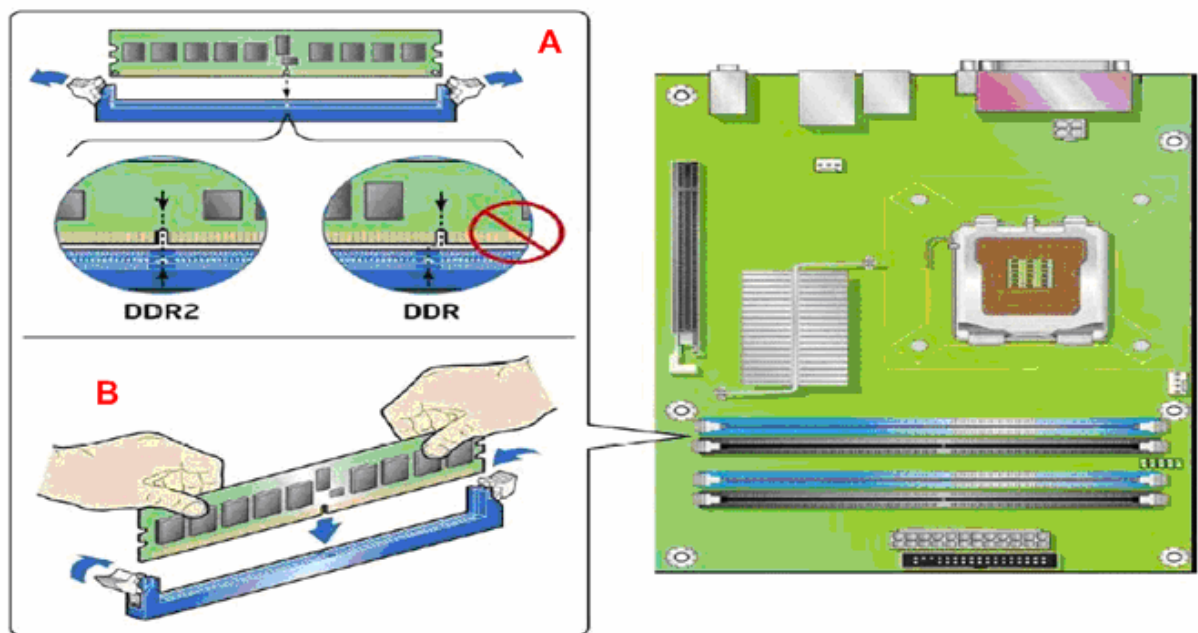

**Figure 13 - Location of the On-board Power Indicators**
**CAUTION:** When connected to AC power, the memory slots on the board will be powered and in use. A red LED (Figure 13) - B, located near the memory slots, will be lit if the memory slots are powered.
The motherboard has two on-board power indicators: a + 5 V standby power indicators (green LED) and a memory power indicator (red LED) shown in Figure 15. The + 5 V standby power indicator (Figure 13) – A. is lit when there is standby power still present on the board even when the computer appears to be off. The memory power indicator (Figure 15) – B. is lit when there is power to the memory slots.